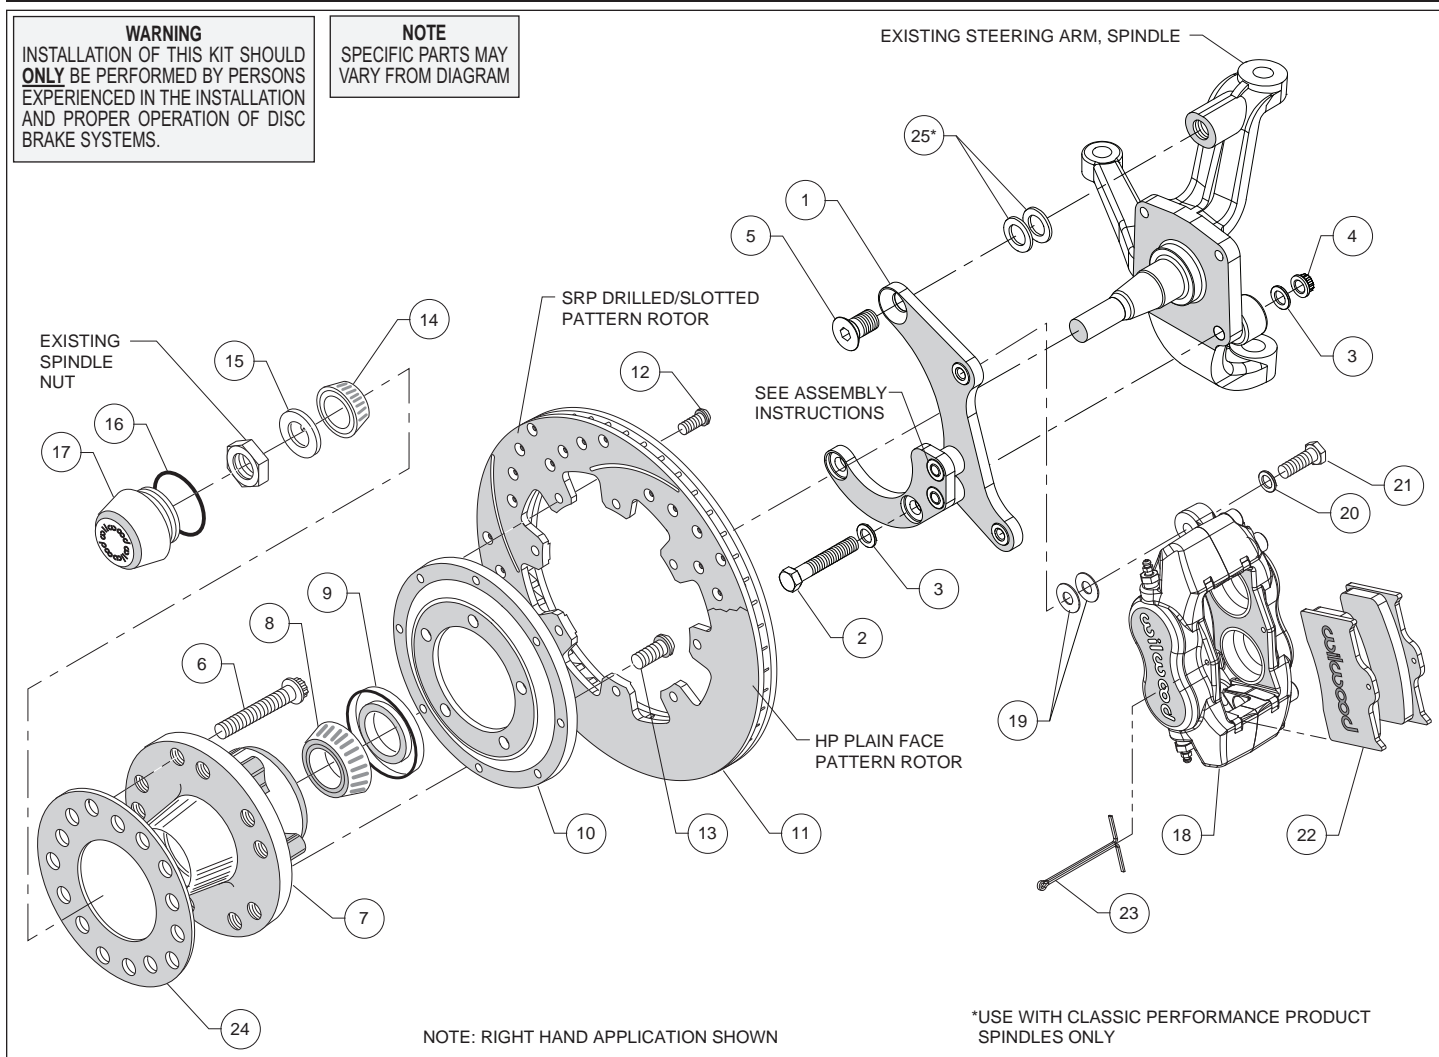
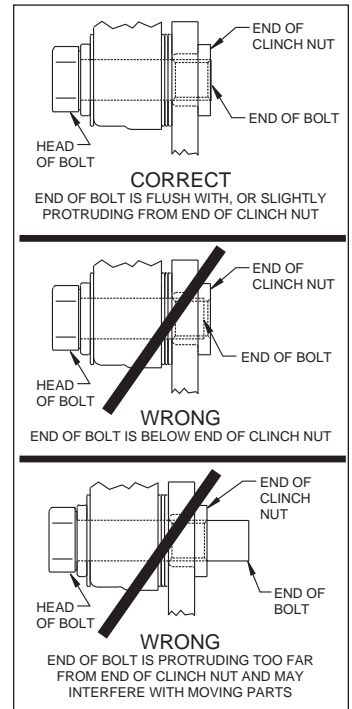

Figure 1. Typical Installation Configuration
Figure 3. Clinch Nut Engagement Diagram
Assembly Instructions (numbers in parenthesis refer to the parts list and Figure 1 on the preceding pages): **CAUTION:** All mounting bolts must fully engage clinch nuts. Be sure to check that all bolts are either flush or protruding through flanged side of clinch nut after shimming, Figure 3.
- The caliper mounting bracket (1) has been assembled at the factory for alignment purposes. Loosen the two bolts that secure the brackets together so that the bolts are hand tight only, this will enable the bracket assembly to be adjusted to accommodate various spindle tolerances during assembly. Orient the bracket as shown in Photo 1 and Figure 1, and install to lower mount holes using bolts (2), washers (3), and lock nuts (4), Figure 1 and Photo 1. Do not tighten yet.
- For Classic Performance Products spindles only:** Initially use two .024" thick shims (25) on upper mount bolt between bracket and spindle, Figure 1. While test fitting bracket assembly per the instructions below, check that the bracket is parallel to the rotor. If not, add or subtract shims (25) between the bracket and spindle.
- Install bolt (5) in the upper bracket hole. Temporarily tighten all of the bracket mounting bolts. Ensure that the flanged heads of the clinch nuts in the bracket are facing outboard, Photo 1.
- Install wheel studs (6) into the hub (7), Photo 2. Torque to 77 ft-lb. **NOTE:** There are two five lug patterns in the hub (5 x 4.50 and 5 x 4.75). Ensure the correct hub stud pattern is being used to fit the wheel application.
- Pack the large inner bearing cone (8) with high temperature disc brake bearing grease (available from your local auto parts store) and install into the backside of the hub (7), Photo 3.
- Install the grease seal (9) by pressing into the backside of the hub (7), flush with the end of the hub, Photo 3.
- Orient the rotor (11) and the rotor adapter (10) as shown in Figure 1 and Photo 4. Attach the rotor to the adapter using bolts (12). Using an alternating sequence, apply red *Loctite*® 271 to the threads, and torque to 25 ft-lb.
- Mount the adapter/rotor assembly (10/11) to the hub (7) using bolts (13), as shown in Figure 1 and Photo 5. Using an alternating sequence, apply red *Loctite*® 271 to the threads, and torque to 45 ft-lb.
- Pack the small outer bearing cone (14) with high temperature disc brake bearing grease and install into hub (7). Slide the hub/rotor assembly onto the spindle. Secure using spindle washer (15) and OEM spindle nut, Photo 6. Bearing adjustment: Tighten the nut while turning the hub. When there is a slight bind on the bearings, they are seated correctly. Back the nut off about 1/6 to 1/4 of a turn, or sufficiently to allow .001" to .007" end play. **WARNING:** Failure to back off adjusting nut could cause bearing to run hot and be damaged, which could cause the wheel to lock or come off. Install OEM spindle nut retainer (if any) and new cotter pin (not supplied).
- Screw dust cap (17) into hub (7), Photo 7. Friction created by the o-ring (16) on the dust cap keeps it from unscrewing. **NOTE:** The O.D. of the existing OEM spindle washer may be larger than the I.D. of the dust cap not allowing it to seat against the hub face. Therefore, use the spindle washer (15) supplied with the kit instead of the OEM washer.
- NOTE:** Please reference the caution statement at the beginning of the assembly instructions. Mount the caliper (18) onto the caliper mounting bracket (1) using bolts (21) and washers (20), as shown in Figure 1. Initially place two .035" thick shims (19) on each bolt between the caliper and the bracket, Photo 8. Temporarily tighten the mounting bolts and view the rotor (11) through the top opening of the caliper. The rotor should be centered in the caliper, Photo 9. If not, adjust by adding or subtracting shims between the bracket and the caliper. Always use the same amount of shims on each of the two mounting bolts. **NOTE:** The end of each bolt must be flush with or slightly protruding from the head of the clinch nut, as shown in Figure 3.